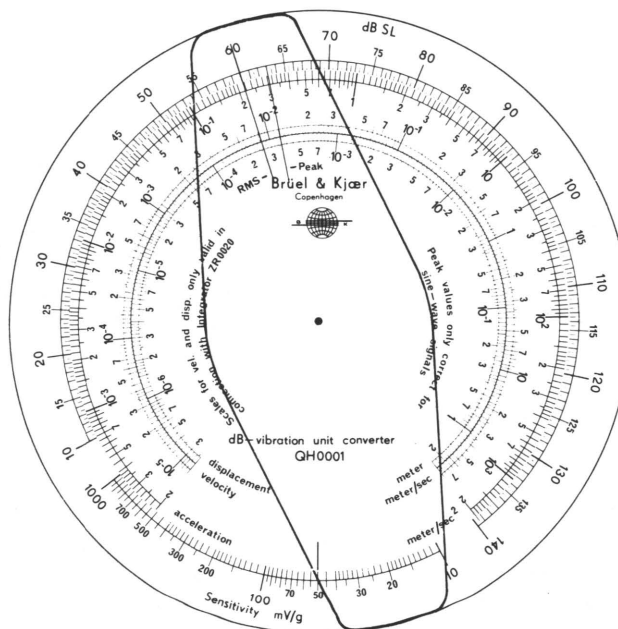

Fig.3.5. Slide Rule QH 0001 set for an accelerometer sensitivity of 50 mV/g and an SPL of 60 dB
The vibration amplitude may only be calculated in the same parameter as that set on the Integrator, and the Slide Rule must not be used to convert from one parameter to another. To determine another parameter, the Integrator must be set and the 2209 calibrated for that parameter and new measurements made. The circular Slide Rule QH 0001 (shown in Fig.3.5) provided with the Integrator should be used to make the calculations as follows:
1. After calibrating the 2209 as in Section 3.5.5., set the isolated red line on the sliding scale adjacent to the accelerometer sensitivity in mV/g on the outer scale of the Slide Rule. (It is shown adjacent to 50 mV/g in Fig.3.5.)
2. Turn the cursor so that its RMS line lies over the value of the 2209 meter reading (M) in dB on the outer dB SL scale of the Slide Rule.